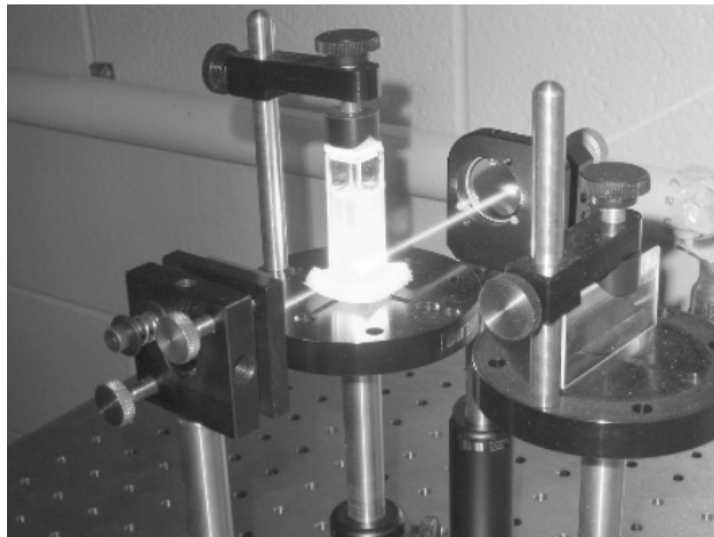

Figure 4: Excited dye cell.
- In this arrangement, the pump laser beam is focused to a line on a dye cell using a cylindrical lens, as shown in Figure 4, in which the focused beam from a nitrogen or excimer pump laser strikes the side of a dye cell exciting dye molecules along the length of the cell.